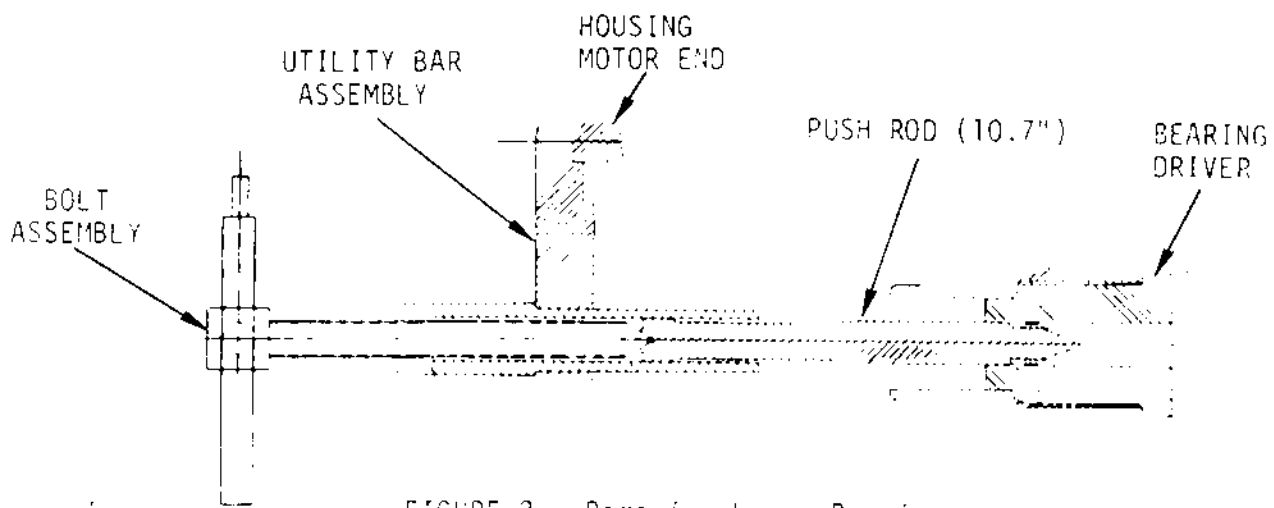

FIGURE 2 - Removing Large Bearing
3. To remove the large motor end bearing, push it through the compressor housing from the suction cover end into the oil sump. The bearing driver, push rod and utility bar should be assembled as shown in Figure 2.